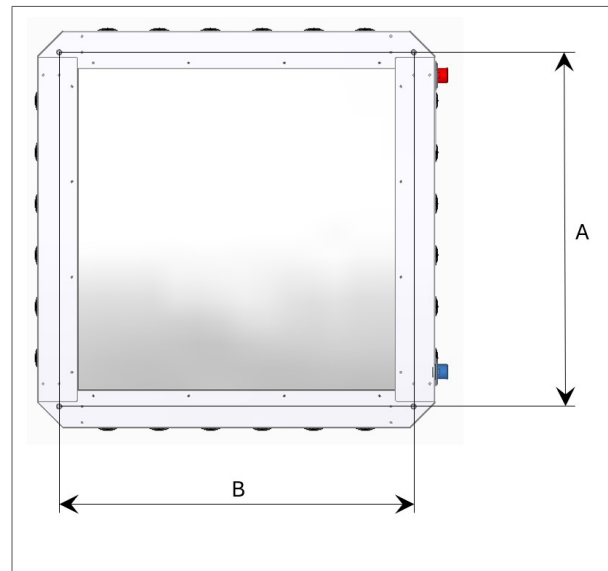

Figure 5 - Suspension dimensions
The air heater is equipped with threaded M10 sockets to suspend the unit. See the dimensions for the different models in the table below and figure 5.
This can be done via the 6-pole connector, see figure 5. In case of an external 0-10V power source, only GND (0V) and 0-10V (IN) need to be connected. If there is no external power source available, the 10V (OUT) can be used, combined with a voltage regulator (potentiometer), like GA3955. If two or more heaters are controlled by a single regulator, make sure only ONE 10V (OUT) source is used.